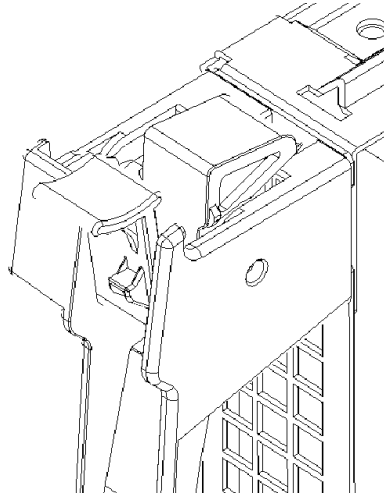

Figure 3-3. Locking the Ejector Button
- Push downward on the ejector button to lock the drive in place. See Figure 3-3.